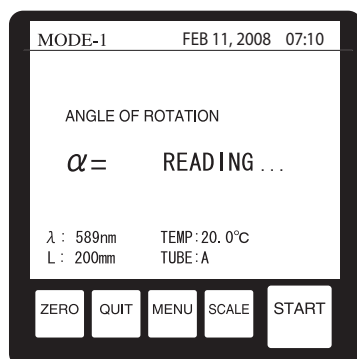

Fig.15-5
c) "READING" will be displayed on the display screen, and start measuring (Fig.15-5).